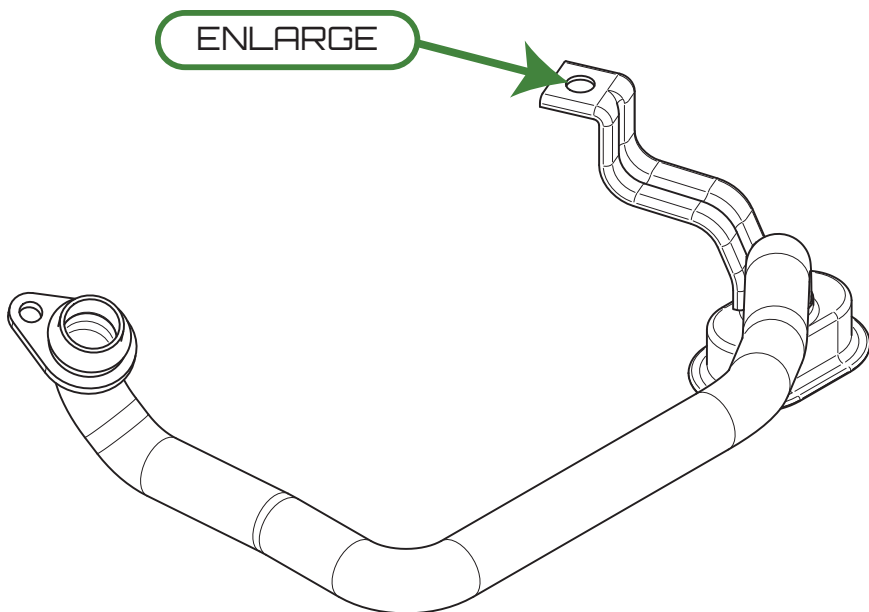

Figure 8 - Hole to Enlarge on the Pickup Tube (Screen)
8. If using ARP main studs, enlarge the pickup tube (screen) mounting hole with a $\frac{7}{16}$ inch (11 mm) drill bit. The hole is shown in Figure 8.